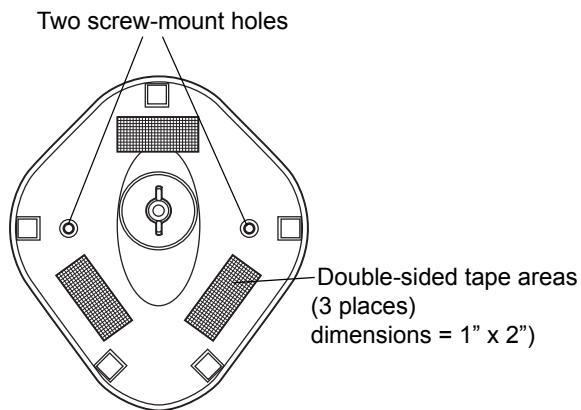

Figure 2-6 Mounting the Stand
2. Screw one #10 wood screw into each screw-mount hole until the base of the stand is secure (see Figure 2-6).
2. Peel the paper liner off the exposed sides of each piece of tape and press the stand on a flat surface until it is secure (see Figure 2-6).